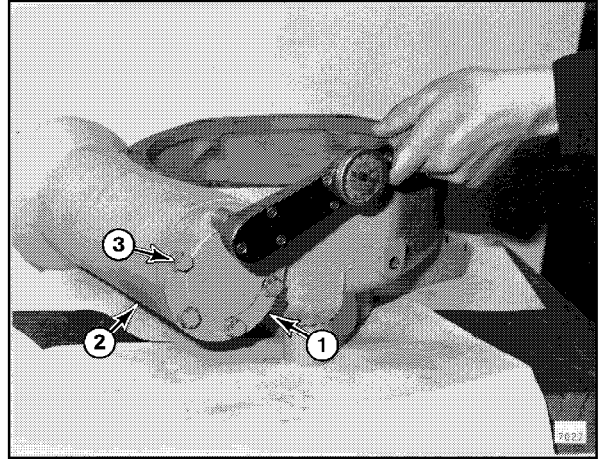

Figure 28
- G. Remove two bolts (3, Figure 27) and end cap (1, Figure 28) from circle reverse case (2).
- I. Install end cap (1, Figure 28) and six bolts with washers (2). Tighten bolts to 32 lbf ft (4.4 kg•m).